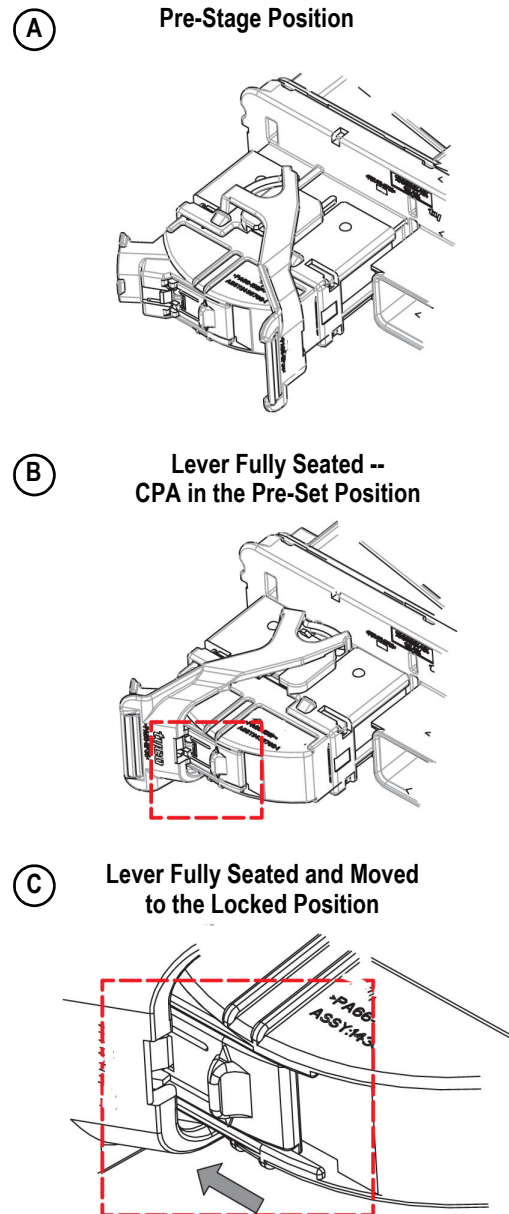

Figure 6
1. Push the plug assembly onto the header shroud until an audible “click” is heard. This is the pre-staged position and flexes the lever so that it can be released from the open position. Refer to Figure 6,A.
3. Once the lever is rotated to the end of travel, an audible “click” will be heard as the lever latches into position on the wire dress. See Figure 6,B.
4. The CPA is then moved from the pre-set position to the locked position. Ribs on the sides of the wire dress align with arrows on the CPA to give visual indication that the CPA is in the correct position. See Figure 6,C.